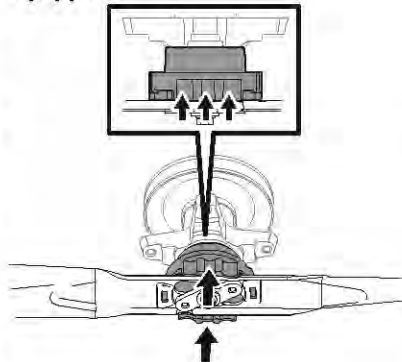

Figure 45
3. Push upward on the blade collar and hold it. See Figure 45.
4. Push the blade upward against the blade adapter until the collar above rises. See Figure 45.